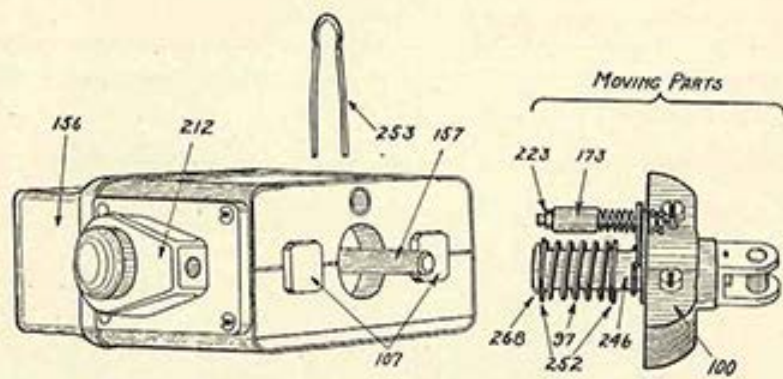
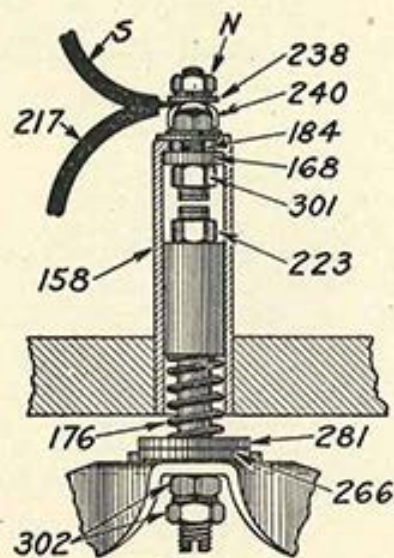

Figure 17
Figure 18
Figure 17 shows the stationary and moving parts of the Wico Magneto. Figure 18 shows the parts with numbers of the breaker point group.
(See Figure 18)
The breaker point contacts (301) and (223) should just touch when the armature (100) is 7-64" from the cores (107). To adjust, trip the armature from its contact with the cores, and insert a strip of metal 7-64" thick between the armature (100) and the face of the cores. Loosen the nuts (302) on the breaker point stem, (see Figure 18), and turn the upper nut until the contact (223) just touches the contact (301). Then set up the lower nut tight against the upper nut. As soon as adjustment has been made, be sure to remove the strip that you placed between armature and cores.
To replace the moving contact (223):—Withdraw the moving parts (see Figure 17) and remove the old contact and its spring (176) from the breaker point plate by unscrewing the two nuts (302). Substitute the new moving contact, being careful to replace the felt washers (266 and 281) as shown in Figure 18.
To replace fixed contact (301):—Remove the front cover and the spring support (253) and withdraw the moving parts (see Figure 17). Disconnect condenser lead (S) and primary lead (217) from breaker point tube (158). Remove all nuts and washers from shank of the contact (301) and push contact down and out of tube. There are two insulating washers (168 and 184) inside of tube and these should be removed also.
Remove the front cover and use a small wire or piece of wood to remove any dirt from the surfaces of the contacts (301 and 223) and from the insulating washer (168). (See Figure 18.) See that electrical connections are tight.